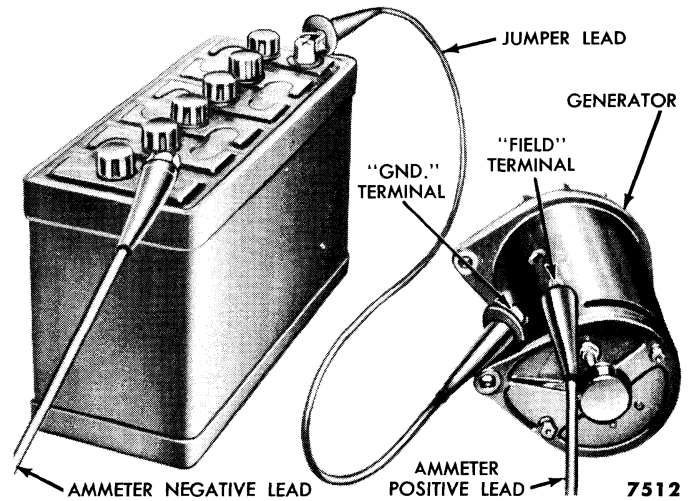

Fig. 13—Open Circuit Test of Field—Off Vehicle
(2) **OFF VEHICLE.** The field circuit can be tested off the vehicle in the same manner as described in the "on vehicle" test above with the exception that a return lead must be used to connect the generator frame to the battery (fig. 13).